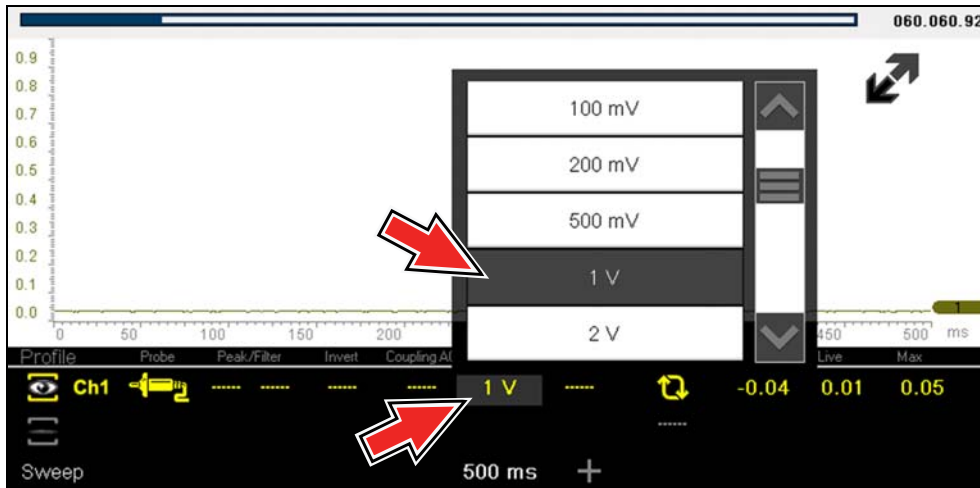

Figure 12-31
**Example (Figure 12-31):** If the vertical scale is set to 1V, the value displayed is 1V.